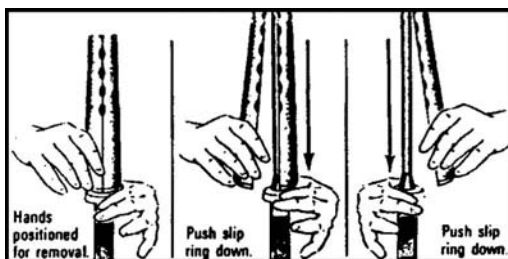

Figure 071-311-2025-5. Removing the handguards
- c. Remove the handguards only if you can see dirt or corrosion through the vent holes (figure 071-311-2025-5). Handguards on the M16A2 are interchangeable because they are identical.